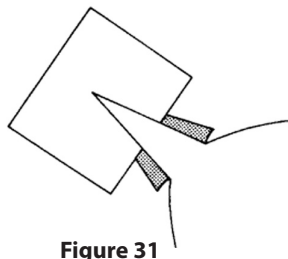

Figure 31
3. Slash through center of marked opening (between stitching lines) up to reinforced point. Cut through all fabric thicknesses; cut to point stitching but not through it. (A small dot of liquid seam retardant may be helpful.) Turn square to the wrong side and press lightly so that it lies flat and in place (Figure 31).